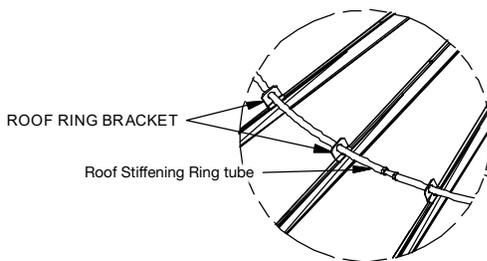

Fig 11 - Stiffening ring bracket with tube
3. Thread stiffening ring tubes through stiffening ring brackets and install 3/4 x 6" threaded expansion bolts with two 3/4" nuts between each tube as shown in Figures 11 and 12.